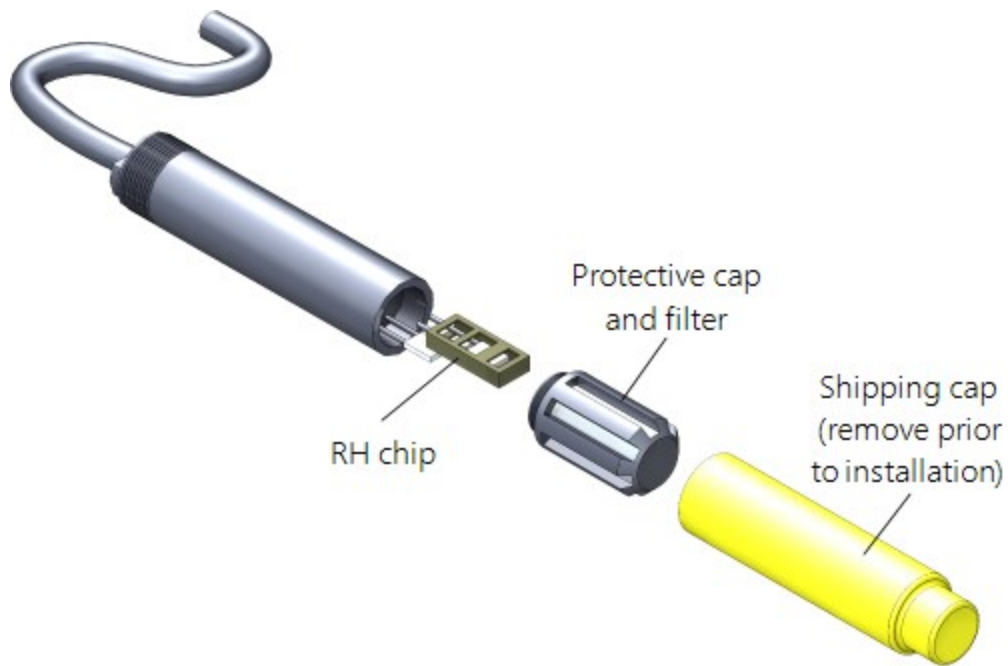

FIGURE 7-1. Exploded view of the temperature and RH sensor (adapter not shown)
- Check calibration of the HMP60-ETS Temp/RH sensor, which tends to drift up over time giving readings higher than 100%. Replace RH chip if necessary (refer to FIGURE 7-1 (p. 71) and Procedure for removing RH chip (p. 72)).
1. Unscrew the protective cap (see FIGURE 7-1 (p. 71)).